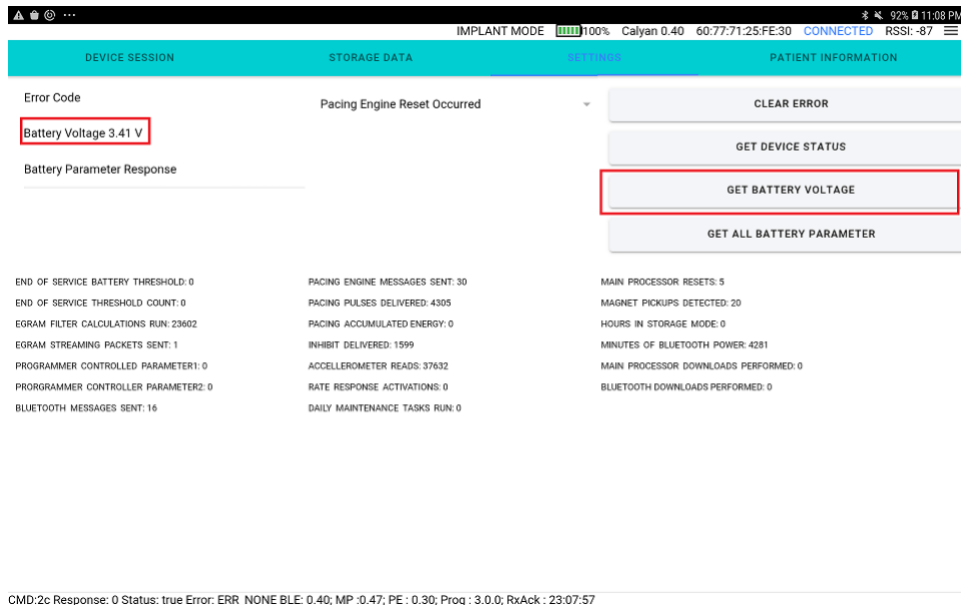

Figure 30: Battery Voltage
- 2. The results are displayed on the screen (Figure30).
- 3. The result displayed on the screen (Figure30).